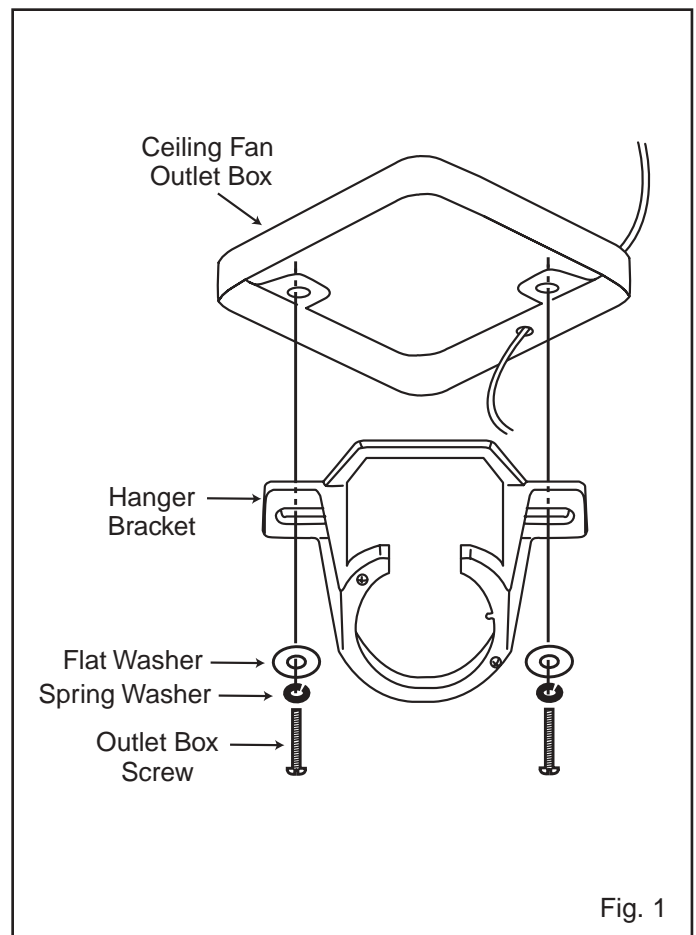

Fig. 1
3. Attach hanger bracket to outlet box using screws provided with the outlet box. (Fig. 1)